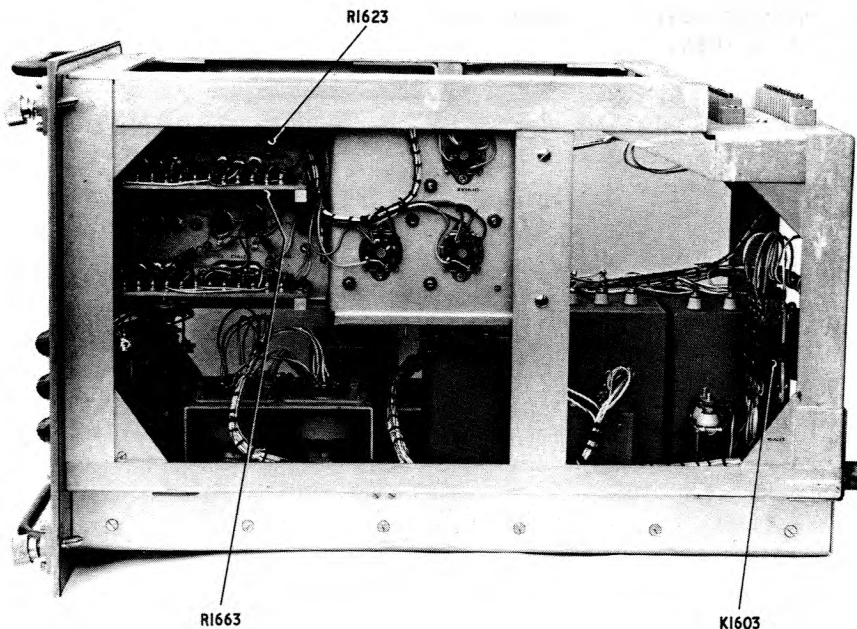

Figure 2-12. Low Voltage Power Supply PP-1766/URN, Right Side View
Step 2. The low voltage power supply adjustment potentiometers R1623 (+250V) and R1663 (-375V) are located inside drawer unit on side of chassis (figure 2-12) and are marked with voltages which they control. To make the adjustments, open drawer unit, loosen hex nut which locks potentiometer shaft in adjusted position, manually operate interlock and, using screwdriver, adjust potentiometer until proper volt-